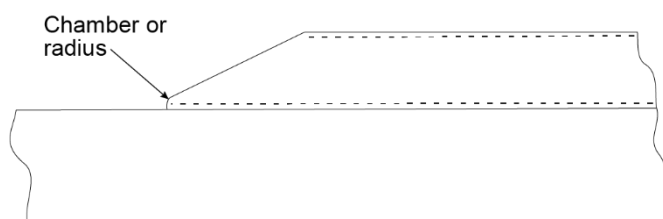

Figure 4: Sub-frame end on chassis top flange
- Ensure protruding weld beads on the sub-frame do not contact the top flange of the chassis when operating (see Figure 4).